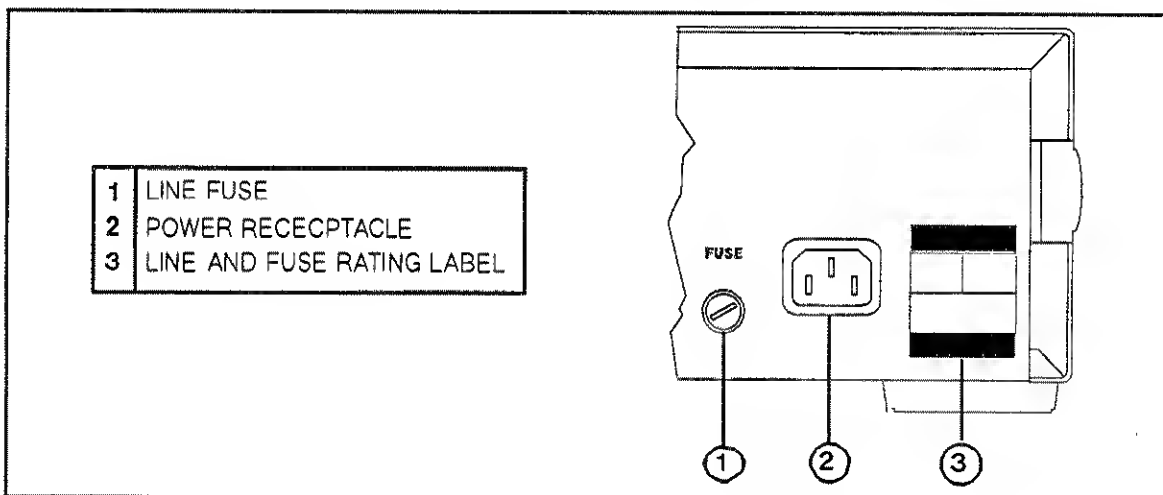

Figure 2-1. Series 654xA and 655xA Power Connection
You can operate your supply from a nominal 100 V, 120 V, 220 V, 230 V, or 240 V single-phase ac power source as indicated on the rear panel line **Rating** label. See "AC Input Ratings" in Table 1-1a for the voltage and frequency range for each type of power source. "Maximum AC Line Current Ratings" in Table 1-2a shows the required current load. The line fuse is located in a fuseholder on the rear panel (see Figure 2-1). The **Line Fuse** label on the rear panel shows the fuse value used in the power supply and Table 1-4 identifies the replacement fuse.
See Figure 2-1 and proceed as follows:
If required, see Figure 2-1 in Chapter 2 and Figure 4-1 in Chapter 4 for parts locations.
2. Examine the Line And Fuse Rating label (3, Figure 2-1);
- b. Use a screwdriver to remove the line fuse from the fuseholder (1, Figure 2-1). Verify that the fuse is as specified on the label. Replace the fuse.